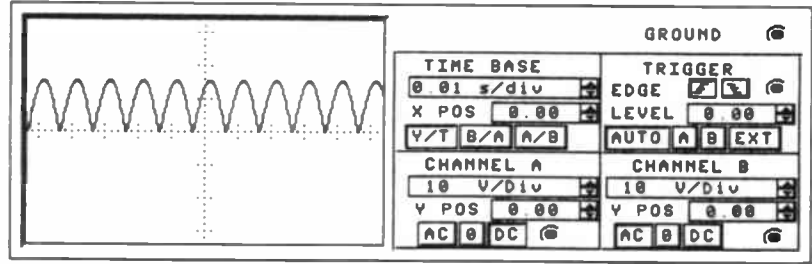

Fig. 3.30 Initial oscilloscope settings for Assignment 3.4.
2. Display the output waveform on the screen of the oscilloscope (see Fig. 3.30 for recommended initial settings for the oscilloscope front-panel). Note the shape of the output waveform (you